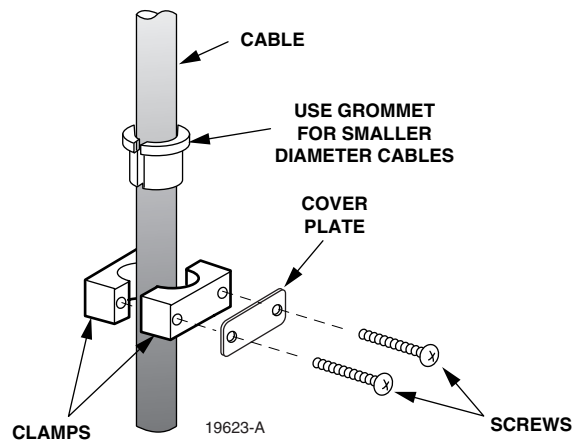

Figure 15. Cable Clamp Assembly for Feeder Cable
6. Assemble the clamps (and grommet if required) on the cable as shown in Figure 15 and then secure the cable to cabinet at the clamping position selected in step 4.